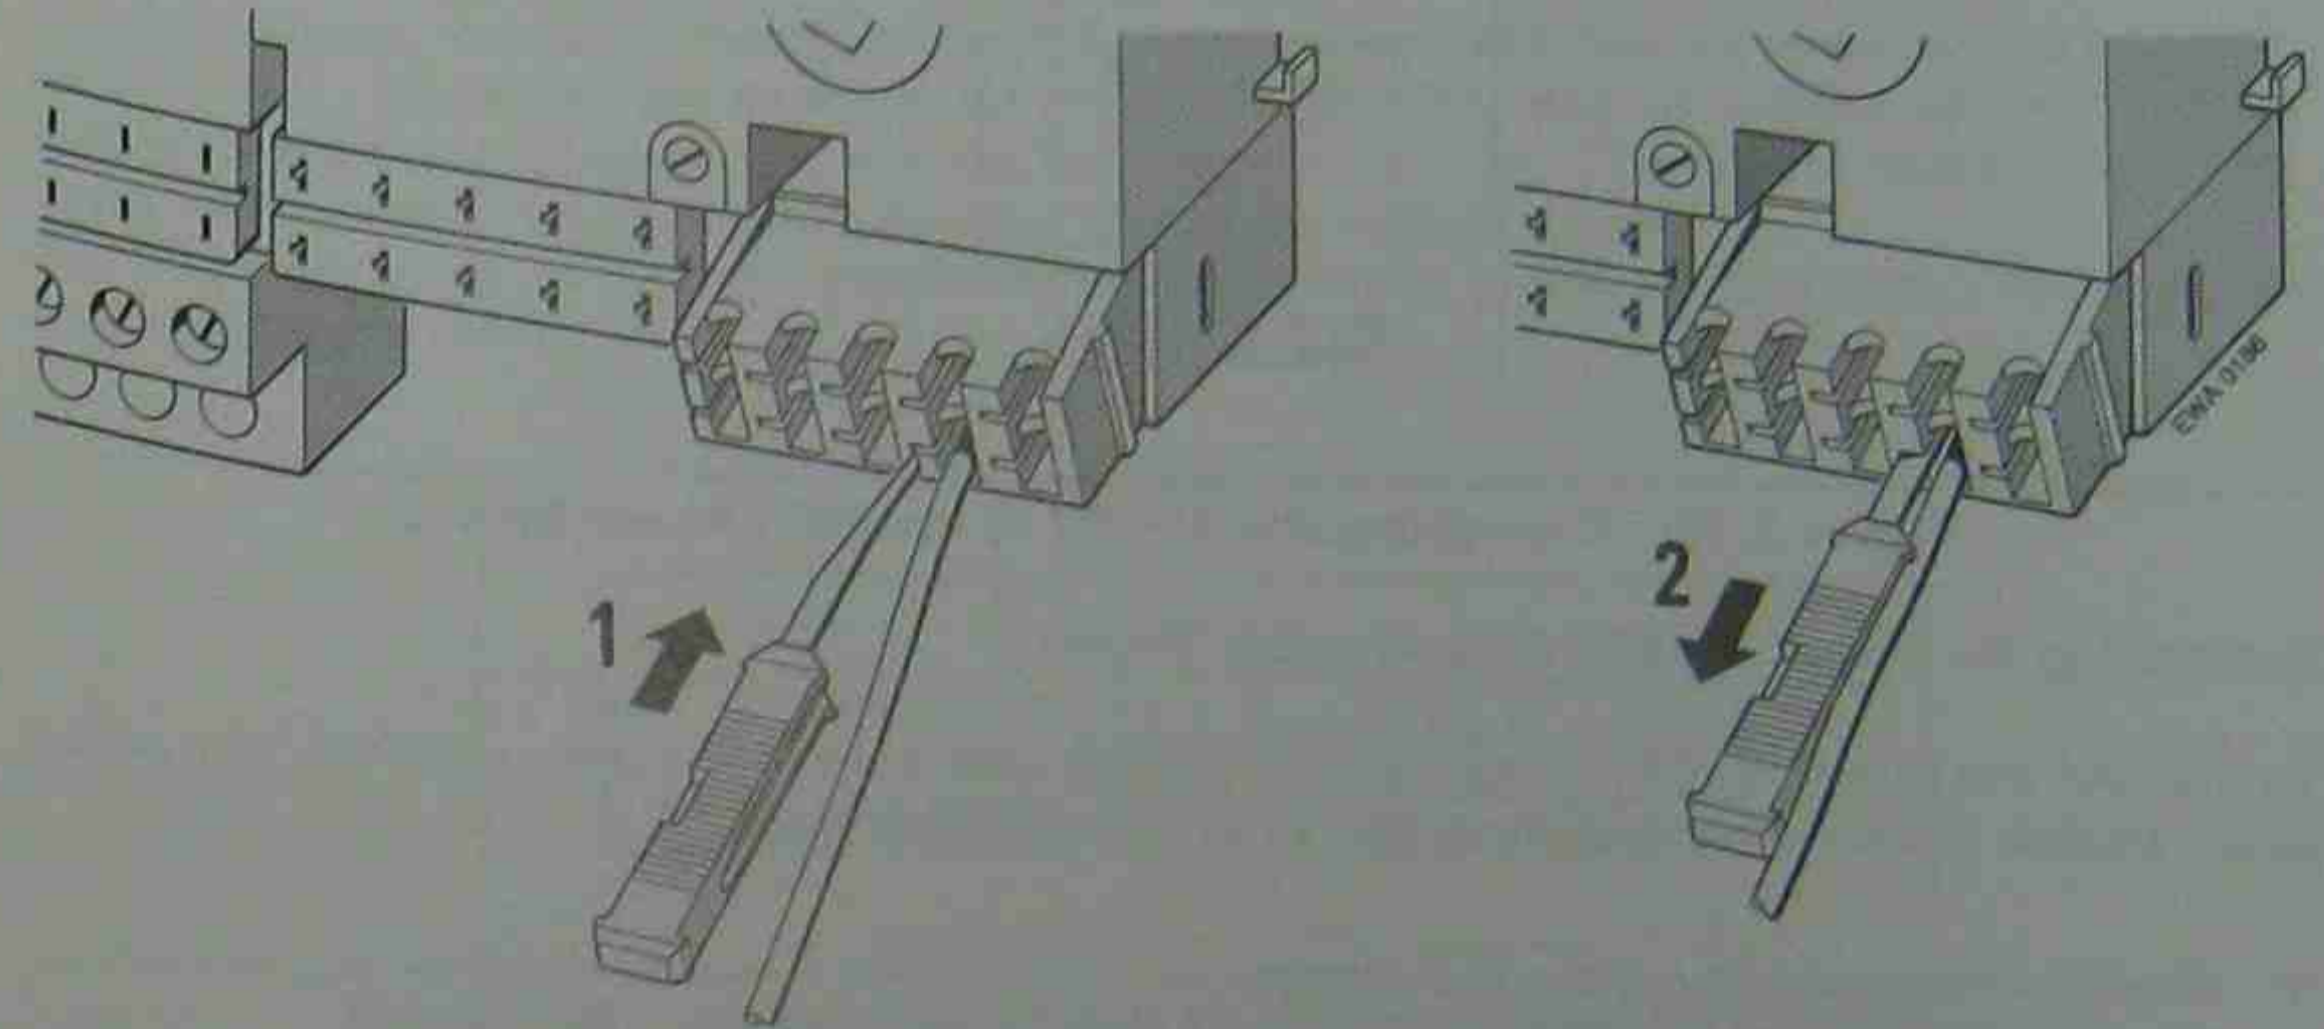

Figure 3-15. Disconnecting a Terminal
- ▶ Position the terminal block as is shown in Figure 3-15.